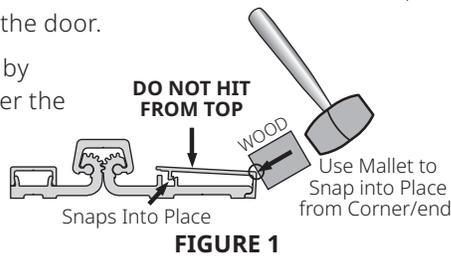

FIGURE 1
5. Install the six (6) #12-24 x $\frac{3}{4}$ " self drill/tapping or 10-1 SMS wood screws in the six (6) $\frac{7}{32}$ " holes located in the door leaf portion of the hinge.
8. Open the door. Enlarge the $\frac{5}{16}$ " holes on the hinge face of the door using a $\frac{3}{8}$ " dia. drill. Finish attaching door leaf portion of PemkoHinge® to the face of the door using the four (4) thru-bolts and shoulder bolts. Thru-bolts attach from non-secure side; shoulder bolts attach from the secure side of the door.
9. To complete the installation, secure the cover by hooking the edge away from hinge gears under the door leaf and then snap the other edge over using a rubber mallet on far side, working from top to bottom. Adjust so top of cover is flush with top of hinge (**Figure 1**).